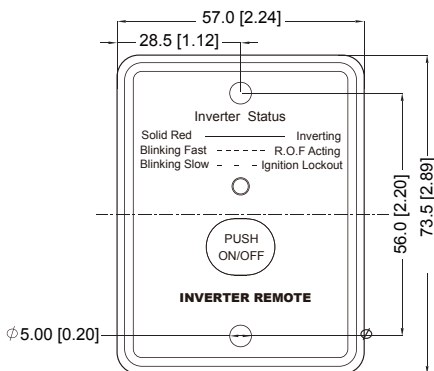

Figure 2. CR8 Mechanical drawings (Unit: mm [inch])
1. Refer to the drawing (see Figure 2) for screw hole and cutout dimensions.